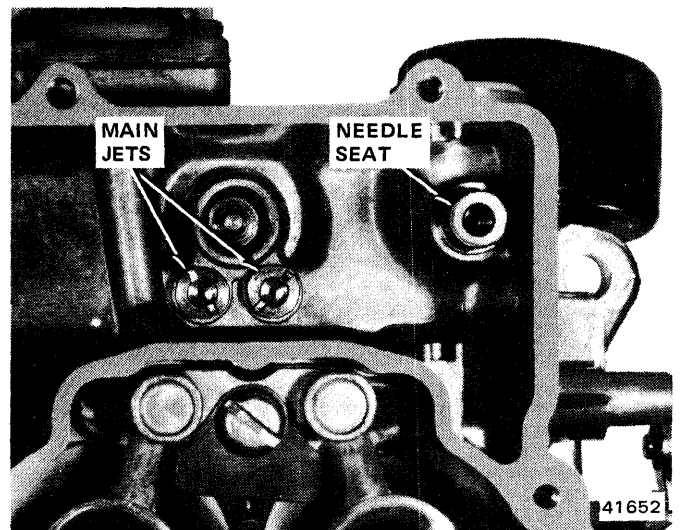

Fig. 4-100 Interior View of Fuel Bowl
(12) Remove fuel inlet needle seat and gasket. Remove main jets with Main Metering Jet Wrench J-10174-01 (fig. 4-100).